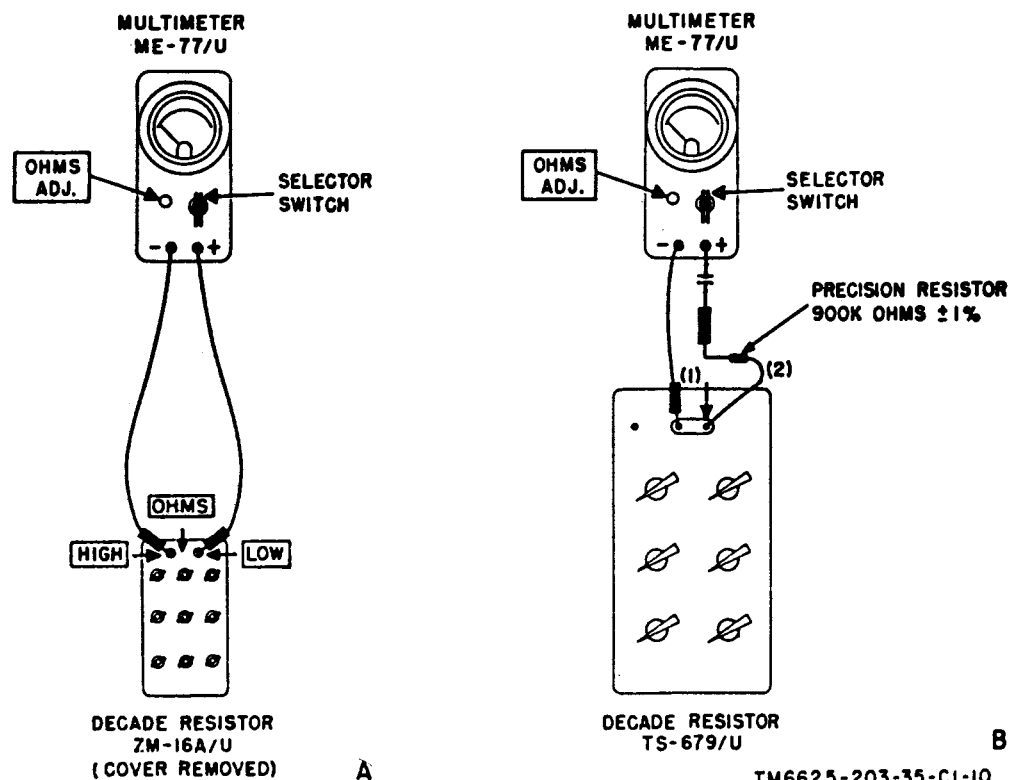

Figure 10. (Added) Ohmmeter circuit test.
(fig. 10)
b. *Test Connections and Conditions.* Connect the equipment as shown in A or B (1), figure 10, depending on which equipment is available.
- b. If Decade Resistor TS-679/U is used, reconnect the equipment as shown in B,(2) figure 10.